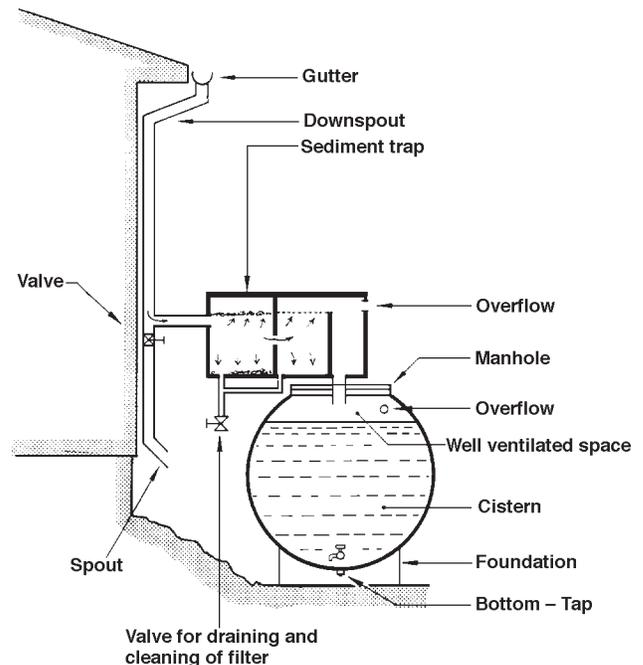

Figure 02
- 02 In many places along the coast, collecting rainwater is the only realistic method for obtaining useful drinking water. Usually, it is collected from the roof and diverted to a cistern (water tank) (Figure 02).